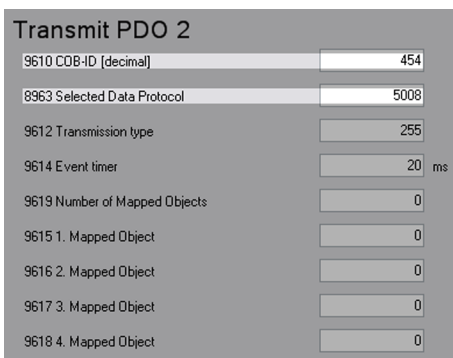

Fig. 36: ToolKit transmit PDO 2 (example)
1. Select "Parameter → Configure interfaces → Transmit PDOs" (Refer to Fig. 36 for details).